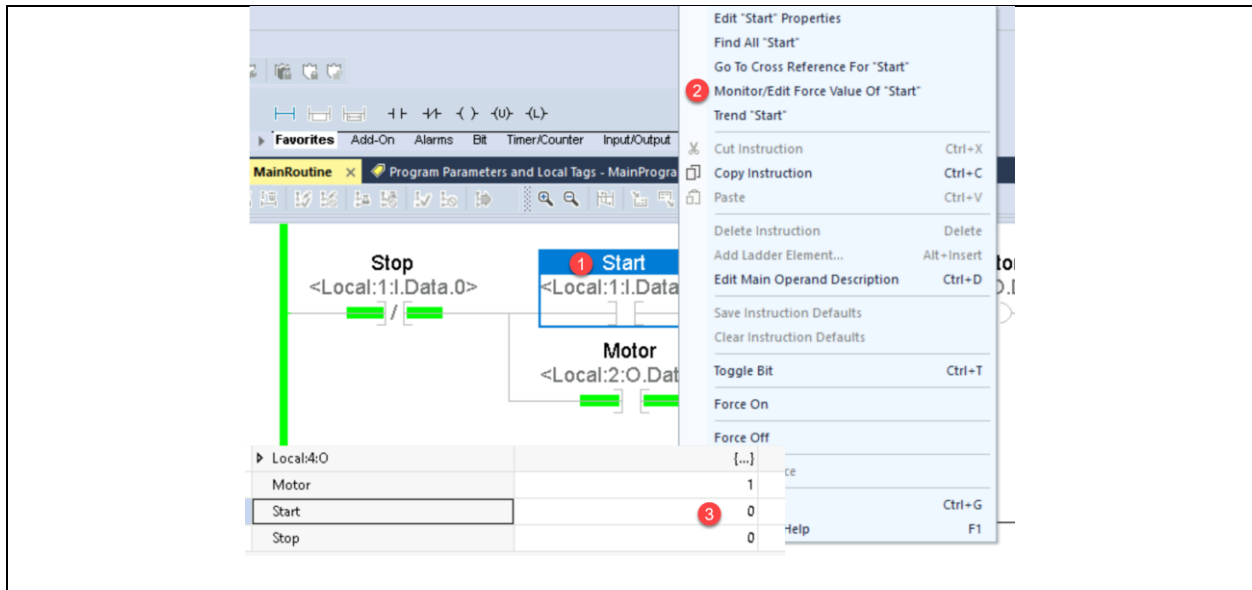

Figure 6. Monitor the value of a Tag.
- Monitor a Tag in the Controller Tags Window: Figure 6 shows the steps to monitor the Start Tag (Alias Tag) using Logix Designer. Right mouse click on the Start Tag in Rung 0 (#1), then choose “Monitor/Edit Force Value Of “Start” (#2), then the window will show the tag in the Controller Tags Window (#3). There is currently a value of “0” in the Start tag, so the XIC does not have highlight.